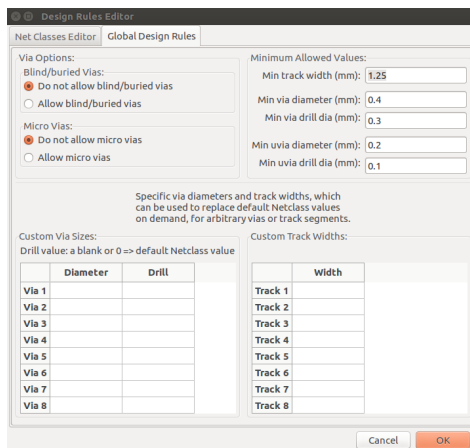

Figure 13.17: Design Rules Editor Window: Global Design Rules
3. Click on **Global Design Rules**, under **Minimum Allowed Values**, locate **Min track width**, erase the default value and enter 1.25 in the data entry field on the right side of it as shown in Fig. 13.17. This will ensure that all tracks placed are of width 1.25mm and that when we perform **Design Rules Check**, the checks